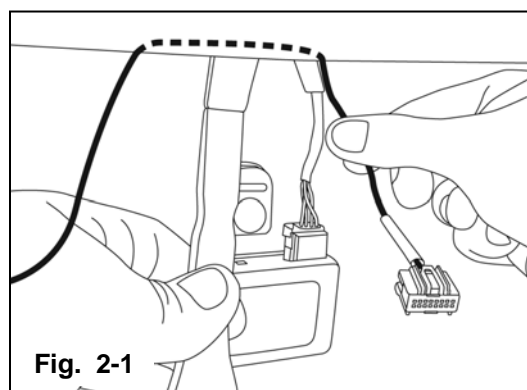

Fig. 2-1
- a) Using fiberstick, route a portion of EC mirror harness into headliner to secure in place. **(Fig. 2-1)**
- b) Route connector end of harness out from headliner at the same point as rain-sensor harness. **(Fig. 2-1)**